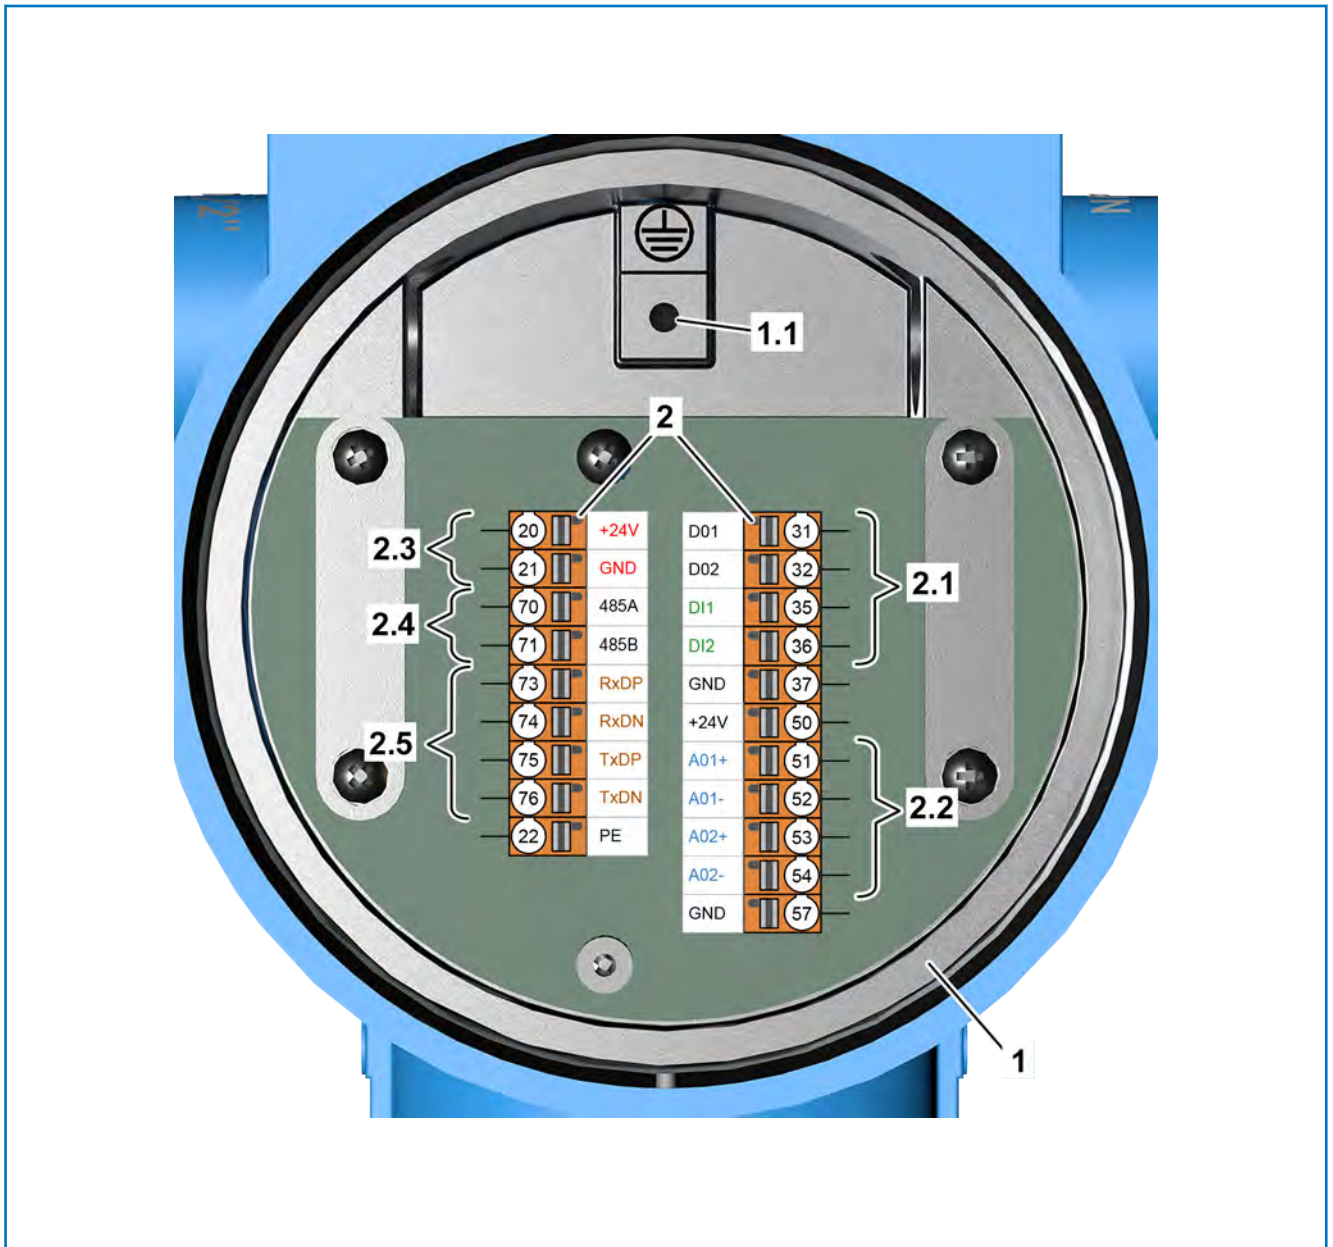

Fig. 7: Wiring diagram for RHE42-R\* Coriolis transmitter (not intrinsically safe)
- 1.** Remove the cover (D) from the RHE42 Coriolis transmitter (A), for example using a strap spanner.
- 2.** Undo the screws (C) and remove the cover plate (B) (only for intrinsically safe inputs and outputs).
- 3.** Screw the appropriate cable glands (NPT ½ inch with Ex e or Ex d approval if the device is being installed in an Ex zone / Div.) into the openings (arrows) of the RHE42 Coriolis transmitter (A) (the cable gland is not included in delivery).
- 4.** Guide the cable through the cable glands and into the RHE42 Coriolis transmitter (A).
- 5.** → Connect the wires to on the RHE42 Coriolis transmitter (A):
- → Figure 7: Wiring diagram for the RHE42-R\\* \(not intrinsically safe\)